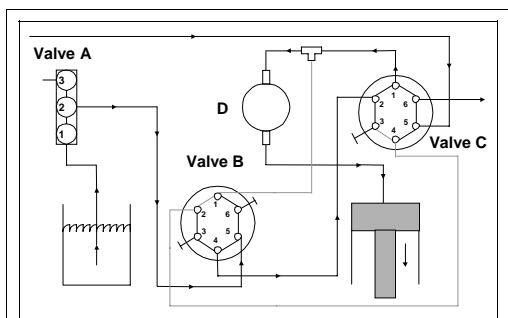

Figure 4.31: TLD Refill (Gradient Delivery)
Figure 4.31 shows the flow schematic of the TLD refilling. Valves A and C are turned to connect ports 1 and 2, valve B is turned to connect ports 4 and 5. The suction created by retracting the piston pulls fluid from the reservoir, through ports 1 and 2 of valve A, through the line connecting port 2 on valve A and port 5 on valve B, and consequently through the line connecting port 4 on valve B and port 2 on valve C. Finally, the fluid is pulled through the lines connecting port 1 on valve C with the pressure transducer (D) and the syringe.